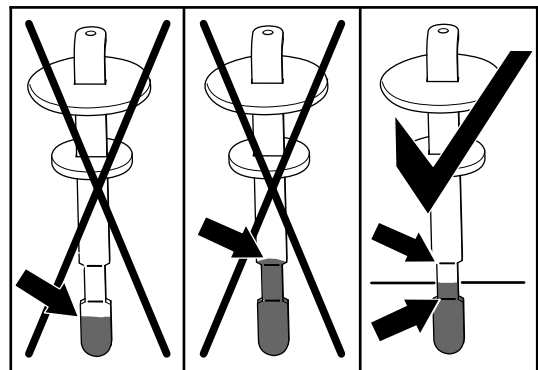

Figure 112
6. Remove the dipstick and check the fluid level (Figure 112).